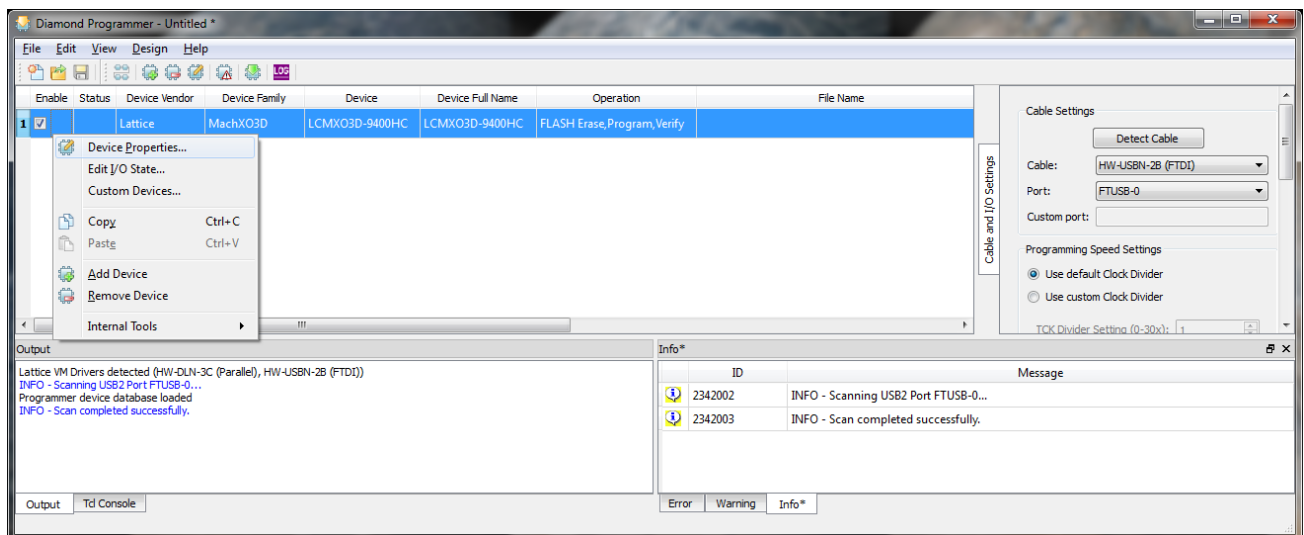

Figure 6.2. Open Device Properties Dialog Box
5. The LCMXO3D device is detected and displayed. Right-click on the device and select **Device Properties...** from the right-click menu (Figure 6.2).